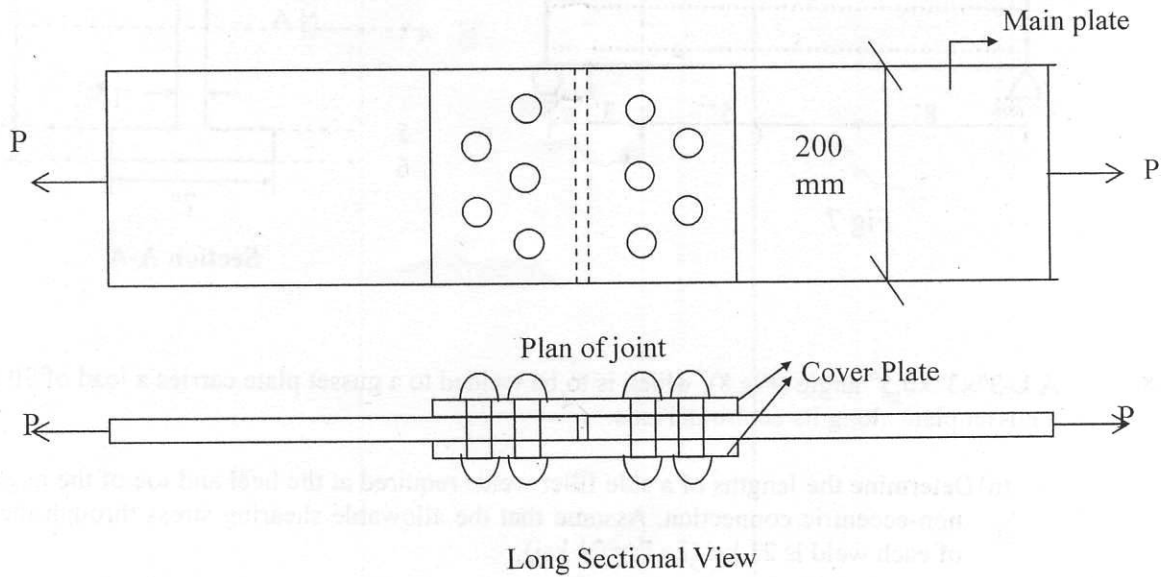

Fig. 10
10. Determine the safe capacity of the double-riveted butt joint shown in Fig.10 and hence the efficiency of the joint. The thickness of the main plate is 16 mm and that of cover plate is 10 mm each. The rivets are 20 mm diameter. The allowable stresses of the plates are 100 MPa in tension and 130 MPa in bearing. Allowable shearing stress of the rivets is 70 MPa. Assume rivet hole diameter is 3 mm more than the diameter of the rivet. (10)